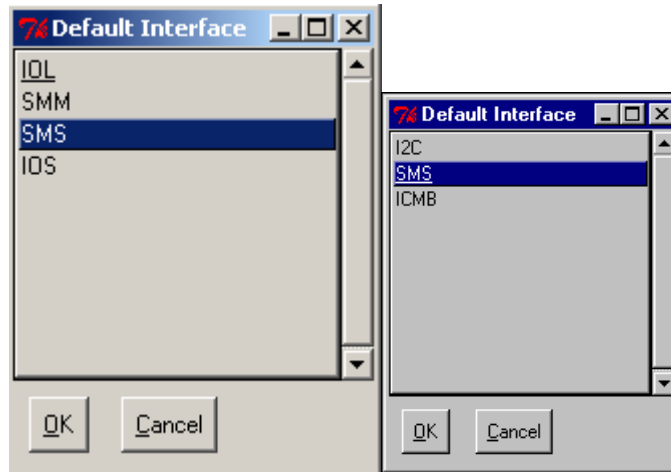

Figure 4-13. Default Interface Dialog Box
2. Click **D**efault Interface.... The Default Interface dialog box appears. Figure 4-13 shows the Default Interface dialog box with one possible interface listed: